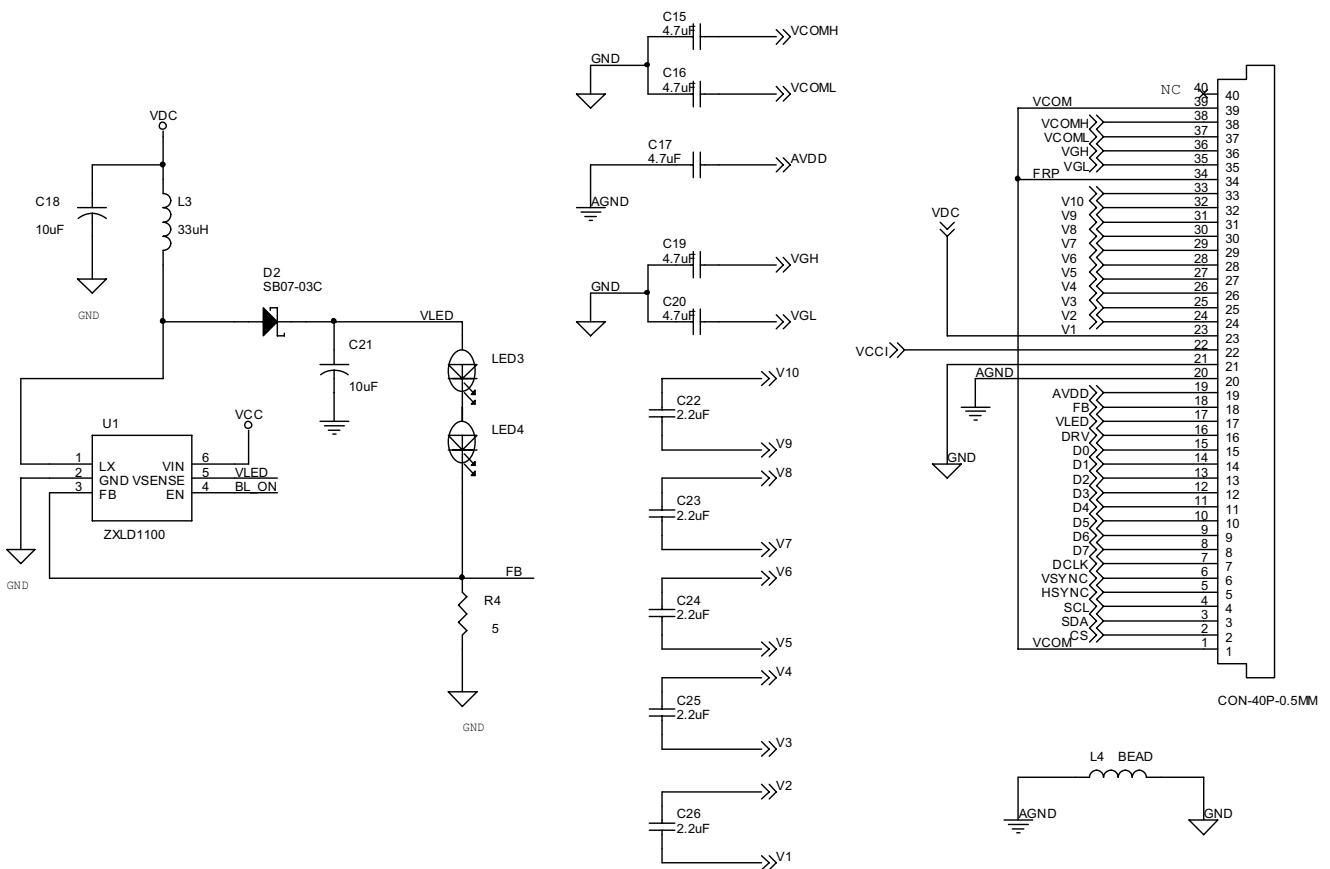
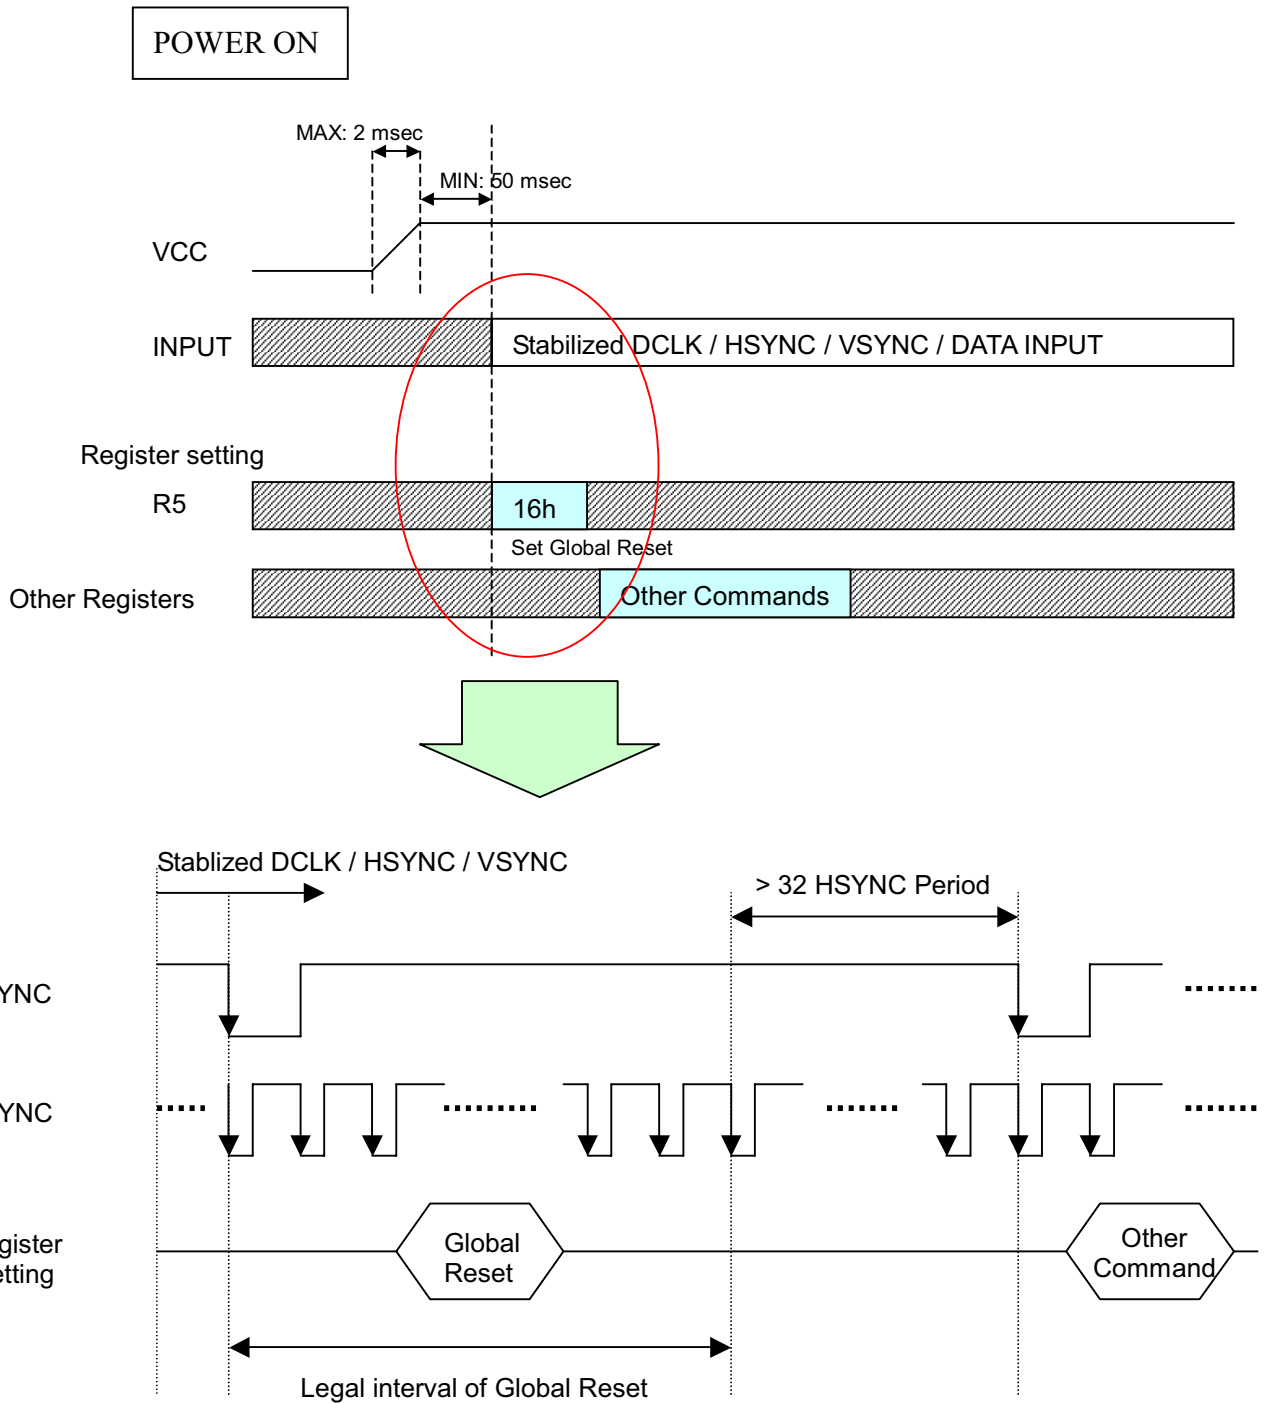

Fig.14 External LED driver Circuit
Fig.19 Valid Timing of Global Reset
See Fig. 14 for the application circuit.
According to Fig. 14, the LED driver(ZXLD1100) and R4(5 ohm) with 0.1V feedback (FB) can provide a constant 20mA current for LED backlight unit. To control the back light on/off timing, user should create a control signal BL_ON (please refer to the ZXLD1100 date sheet). The LCD driver output DRV signal can also be used to drive BL_ON.
After VDC/VCCI power on reset, VSYNC/HSYNC/DCLK/DATA can be input, and serial control interface is also operational. To ensure that panel can be lighted on successfully, the first step is setting global reset (register #5 "16(hex)") as the timing in Fig. 15. Then the LCD driver is in default standby mode after VDC/VCCI power-on, and setting register #5 bit #0 to high (STB=1) to disable the standby mode is required for normal operation. When the standby mode is disabled, a build-in power on sequence is started. The driver IC analog power AVDD is turned on first, and then the LCD positive and negative power supplies VGH/VGL are pumped, and followed by the LED power VLED. Since we recommend using external LED driver, the BL_ON signal (see Fig.14) should be provided at this time. Please refer to Fig.15 and Fig. 19 for the detail timing of power on/off sequence, especially the global reset timing in Fig. 19.